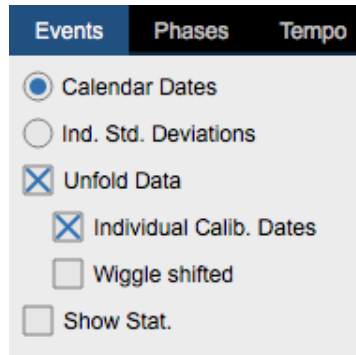
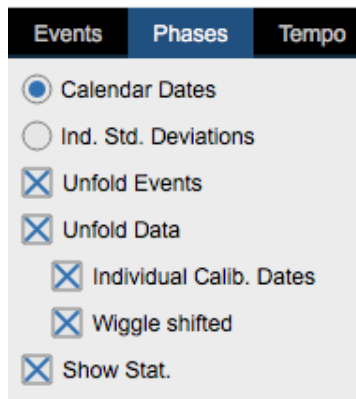

Figure 62 – Events tabs
Figure 64 – Phases tabs
- For the Data: If the item is a Data result, the distribution curve obtained from the FFTW process is displayed with the same color as the parent Event. Under it, the solid area is limited by the HPD region. If you have ticked the `Unfold Data` `Individual Calib. Date`, the individual Calibration distribution without model constraints (see section 4.3.6) is displayed in grey outline. If you have ticked the `Unfold Data` `Wiggle shifted` (see Figure 62 and Figure 64, one more curve is displayed in a grey dashed line. If you checked `Density Options` `Show confidence Bar` (see section 8.3.2), the credibility interval is plotted as a horizontal bar above the curves.